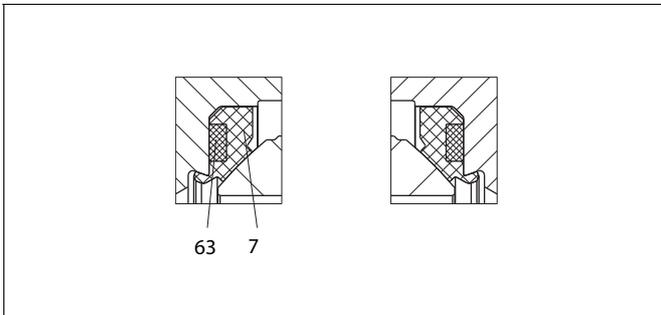

Fig. 20 P-seat
- ❑ **P- and S-seats:** Place the back seal (63) in the ball seat (7); see Figures 20 and 21. Place the seat in the body (1).